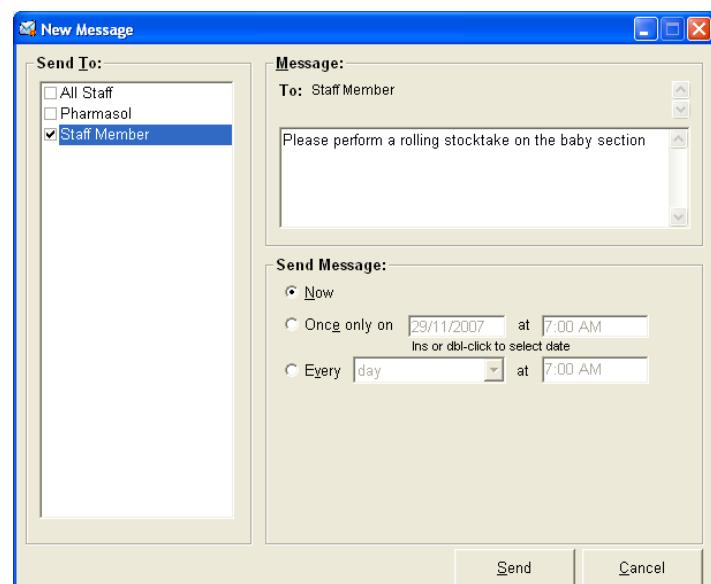

Figure 242
5. Selecting 'New' will display the 'New Message' window (as shown in Figure 242).